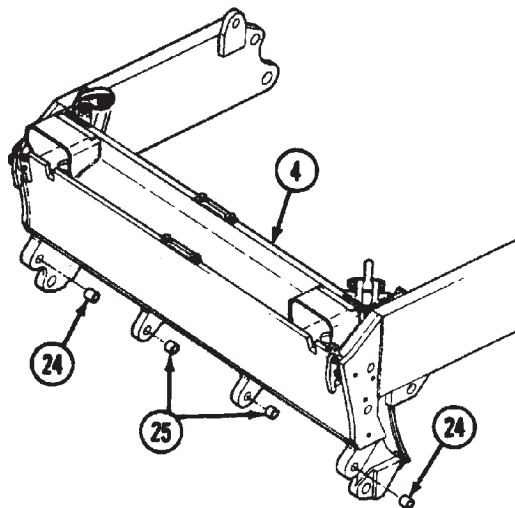

Figure 27. Inner Bushings from Apron.
Step 14 applies to Figure 27.
14. Using hammer and drift, drive out two outer bushings (24) and two inner bushings (25) from apron (4).